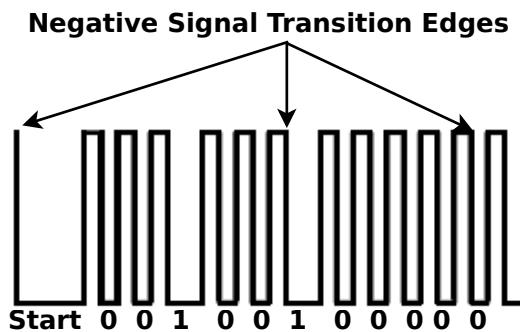

Figure 3: PWM Encoded Pulse Train for IR Remote
- **IR remote control:** The basic principle of an IR remote control is to utilize infrared light for transmitting short control messages from the remote control to the IR receiver. Pulses of infrared light which represent specific binary codes are transmitted from the IR remote . These binary codes correspond to commands such as ‘Power On/Off’, ‘Volume Up/Down’, etc. The receiving hardware decodes the pulses of light back into binary codes and uses them to command the device under control. The IR remote we will be using encodes the binary data using Pulse Width Modulation as seen in Figure 3. In addition to the binary data pulses, each pulse train consists of a ‘START’ pulse. A negative edge transition separates each pulse.
- (d) Using Figure 3 as a guide, measure the length of the ‘Start’, ‘0’, and ‘1’ pulses. You will need to use the time axis cursors on the oscilloscope to do this. Try to make your measurements as accurate as possible and note them in your lab manual.